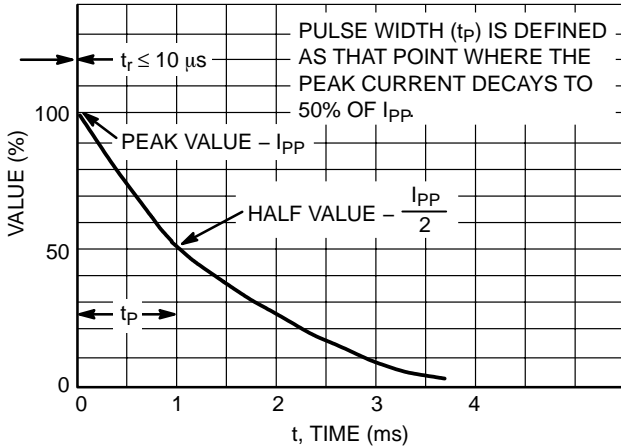
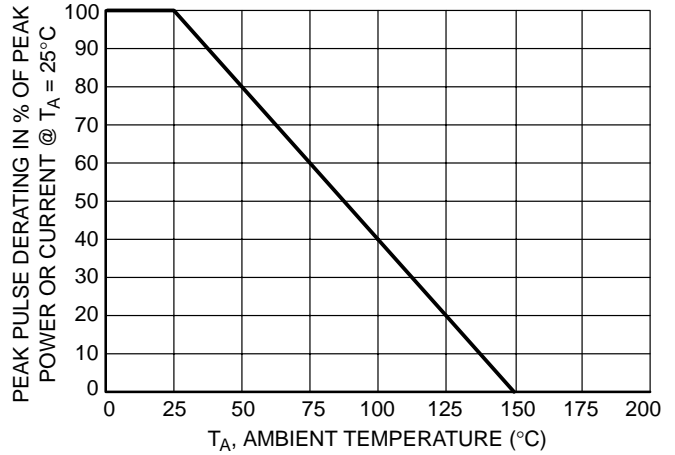

Figure 5. Pulse Waveform
Figure 6. Pulse Derating Curve
1. Non-repetitive current pulse per Figure 5 and derate above  $T_A = 25^\circ\text{C}$  per Figure 6.
6. Surge current waveform per Figure 5 and derate per Figure 6